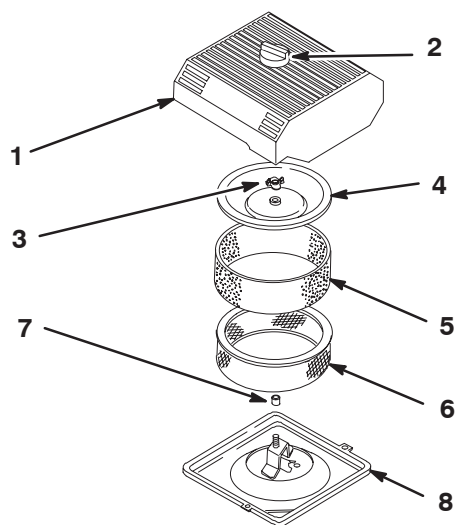

Figure 24
3. Clean around the air cleaner to prevent dirt from getting into the engine and causing damage (Fig. 24).
- Loosen the knob on the air cleaner cover and remove the cover (Fig. 24).
- Carefully slide the foam element off the paper element (Fig. 24).
- Unscrew the cover nut and remove the cover and paper element (Fig. 24).
1. Carefully slide the foam element onto the paper air cleaner element (Fig. 24).
3. Install the cover nut finger-tight against the cover (Fig. 24).
4. Install the air cleaner cover and knob (Fig. 24).